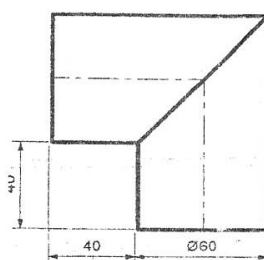

Fig. 8 Q-6(b)
b) Fig 8 shows the elbow joint of two pipes. Draw the development of the lateral surface.